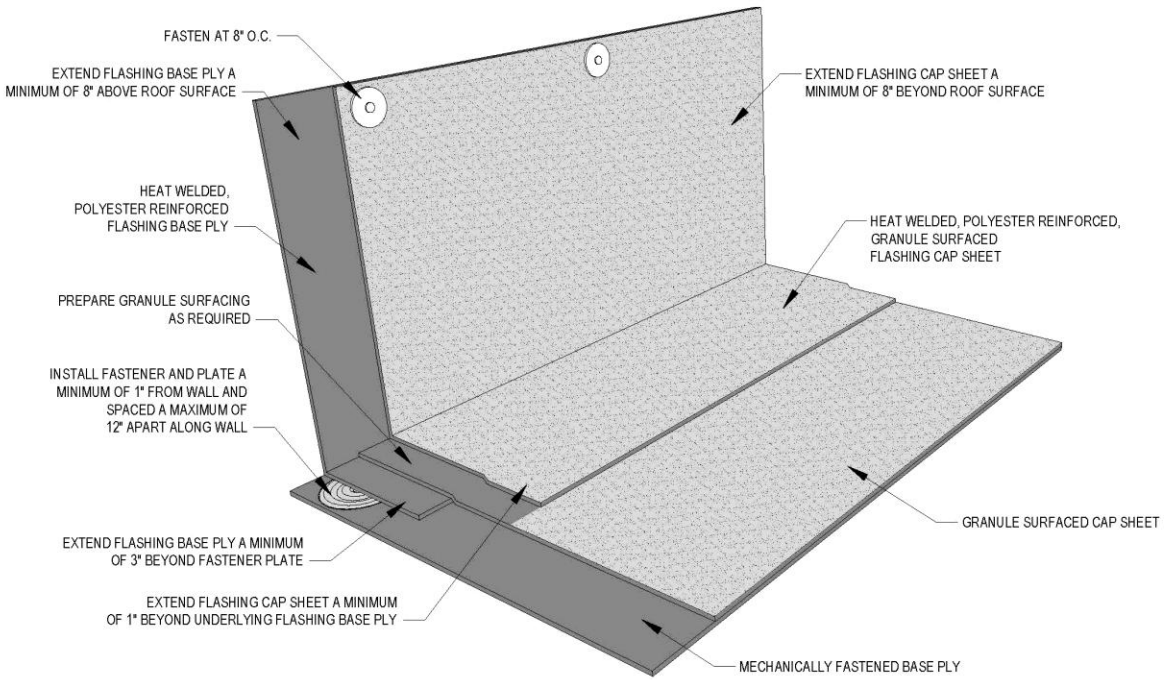

Figure 3.3.1a Mechanically Fastened Base Ply at Wall/Curb With Granule Surfaced Cap Sheet Without Cant
- For SOPRAFIX® BASE fastening requirements refer to Table 3.3.1b and Figures 3.3.1a through 3.3.1n.
- At the end of the sheet where it terminates at roof edges, penetrations, walls and curbs, fasten the end-laps to the deck 12 in on-centers or less. Refer to Figures 3.3.1a through 3.3.1j.